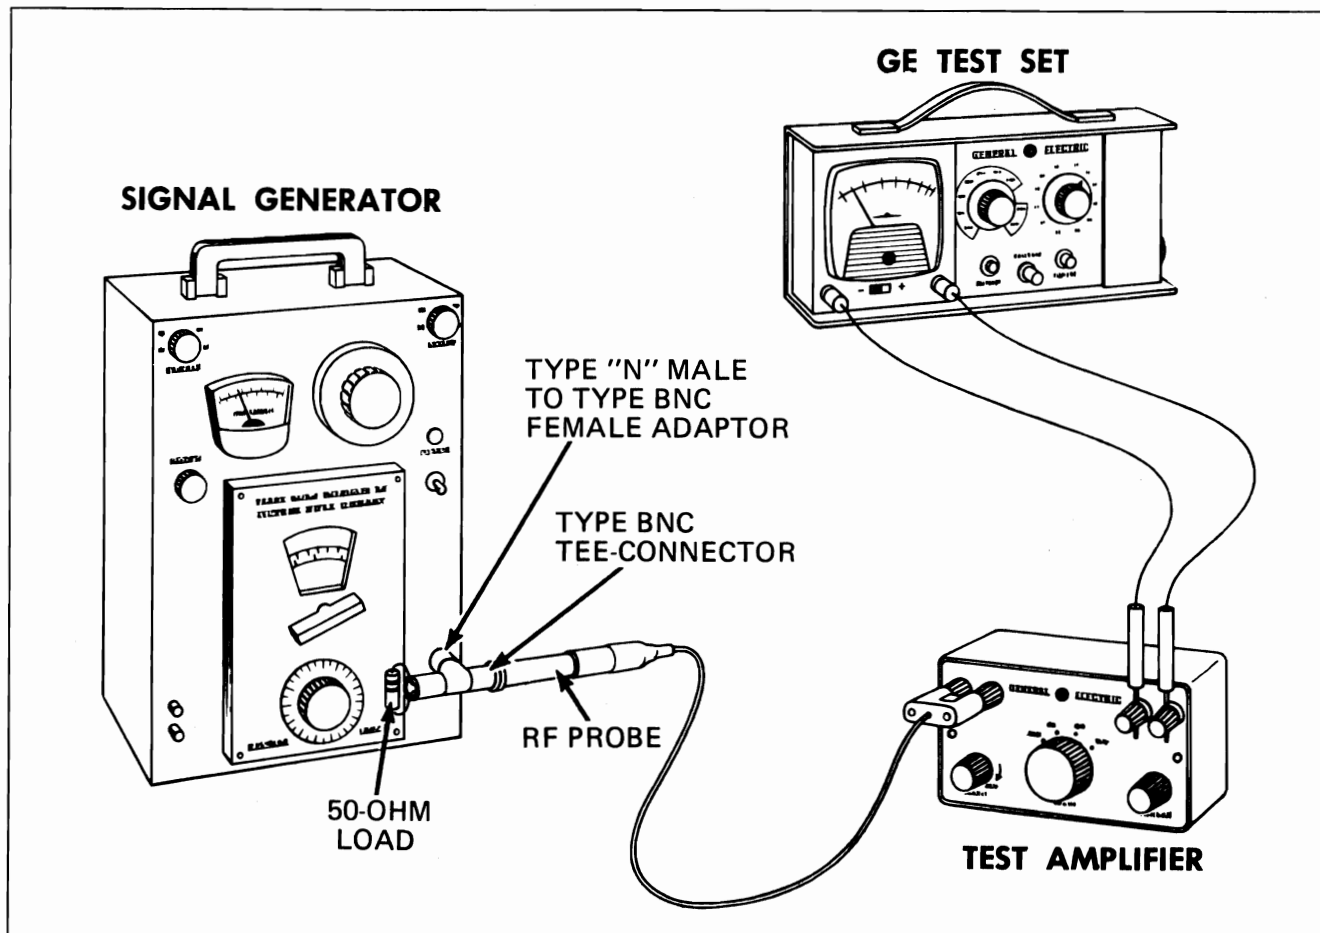

Figure 3 - Calibration Test Set-Up
1. Terminate one end of the "T" connector directly into a 50-ohm load (no cable), and connect the RF Probe directly into the unterminated end as shown in Figure 3.